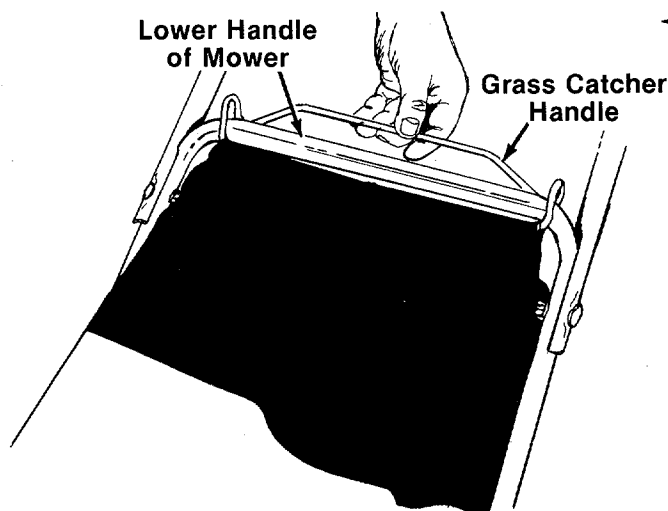

FIGURE 23.
3. Hook the handle on the rear of the grass catcher over the lower handle of the mower. See figure 23.